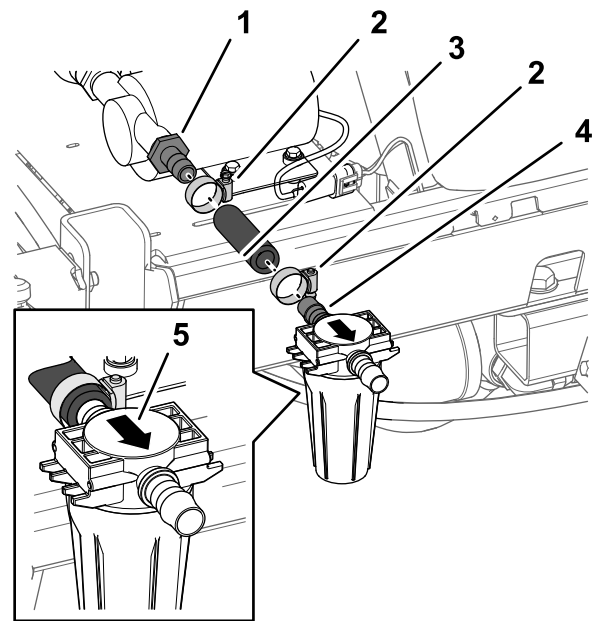
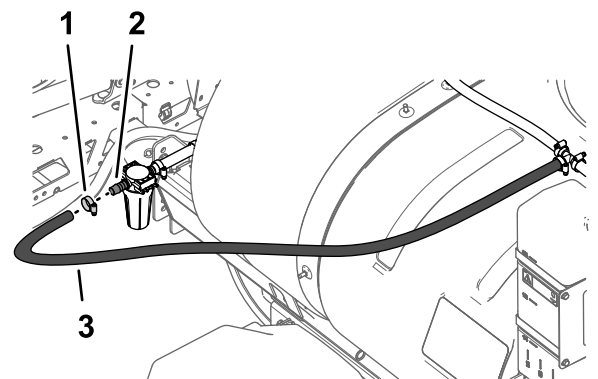

Figure 29
Figure 30
straight-barb fitting of the rinse-tank pump with a hose clamp, and tighten the clamp by hand (Figure 29).
3. Loosely assemble the straight-barb fitting at the inlet of the filter head (filter assembly) into the hose 17.8 cm (7 inches) with a hose clamp (Figure 29).
4. Assemble the free end of the hose 1.9 x 180 cm (3/4 x 71 inches) onto the straight-barb fitting at the outlet of the filter head with a hose clamp (Figure 30).
5. Adjust the position of the filter head so that the bowl of the filter assembly is vertical and tighten the 2 hose clamps by hand (Figure 29 and Figure 30).